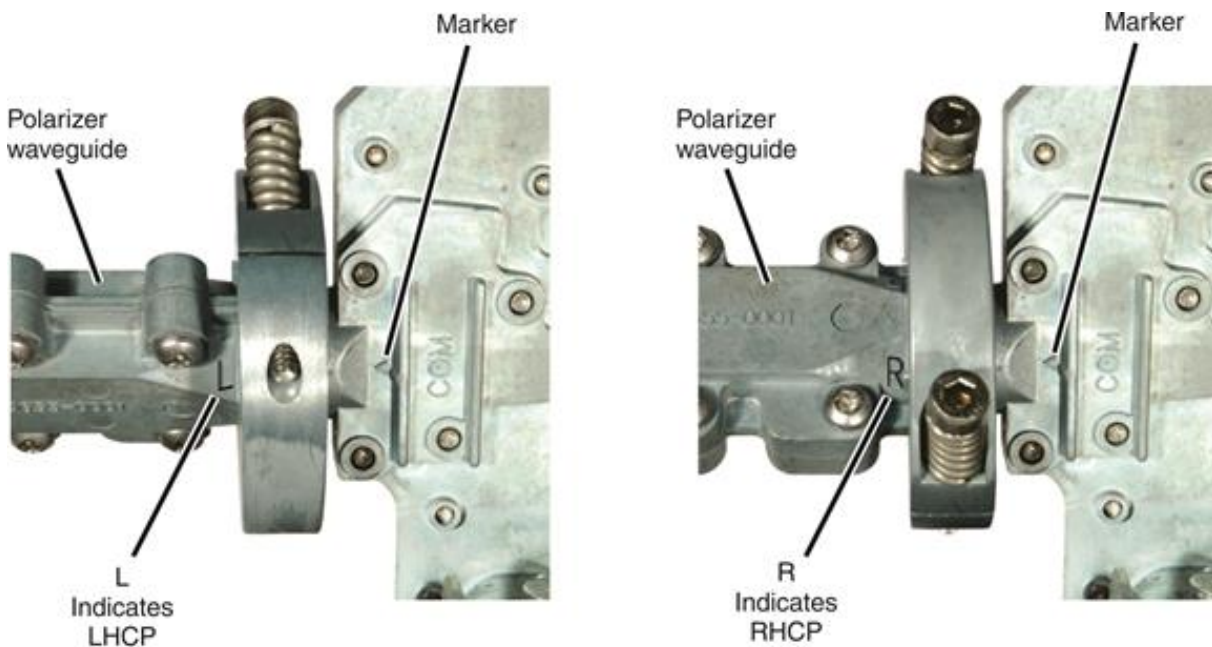

Figure 15: Determining the polarization setting
2. Refer to Figure 15 and check the position of the polarizer waveguide on the radio.